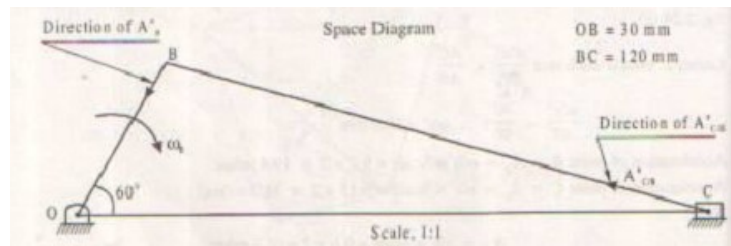

Fig. 2.5
- In a slider crank mechanism, the crank OB = 30mm and the connecting rod BC=120mm. the crank rotates at uniform speed of 300rpm clockwise. Find the crank position shown in the figure in which the crank is turned 60 degree, find a) velocity of piston C and angular velocity of connecting rod BC b) acceleration of piston C and angular acceleration of connecting rod BC as shown in fig 2.5